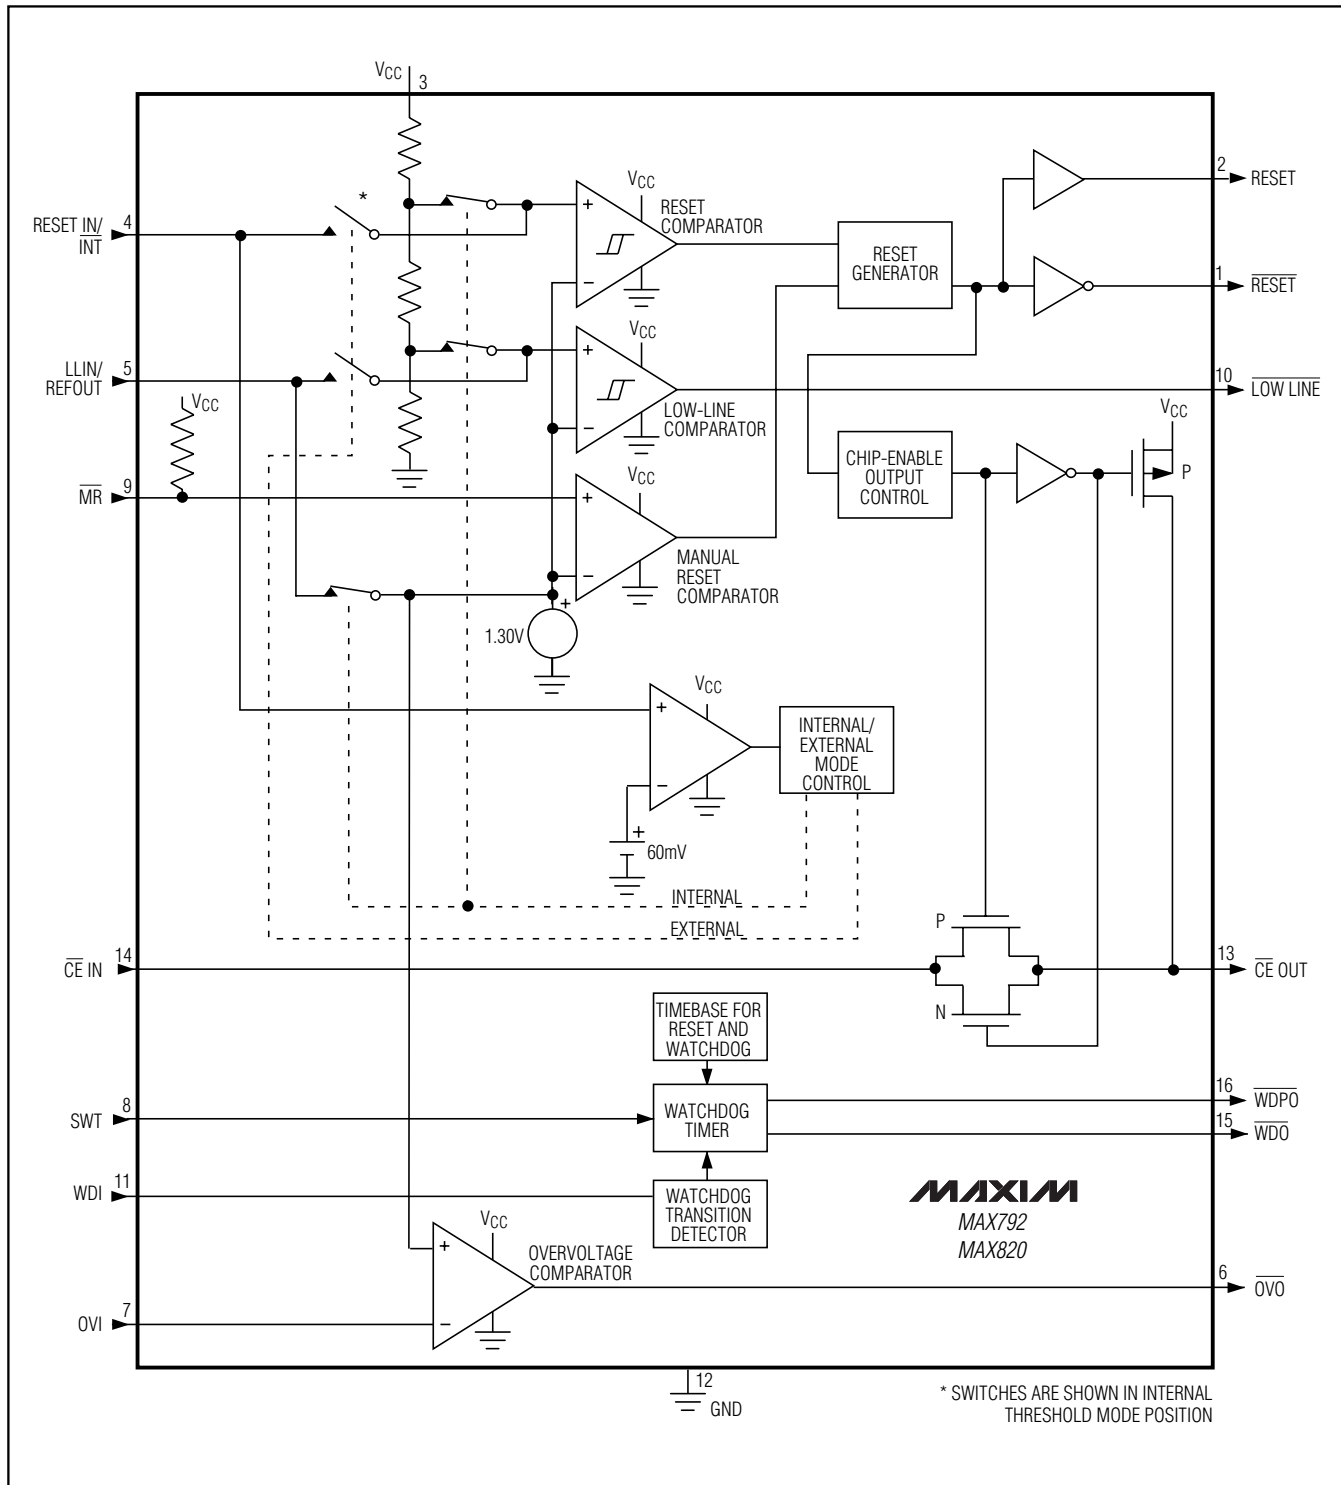
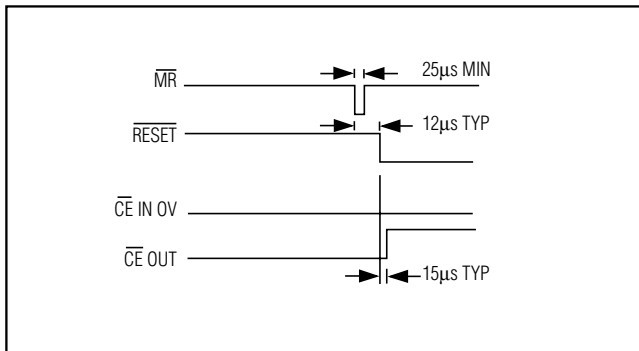
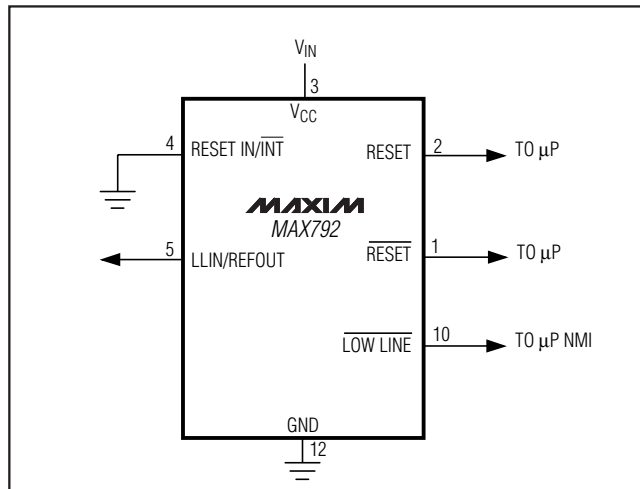
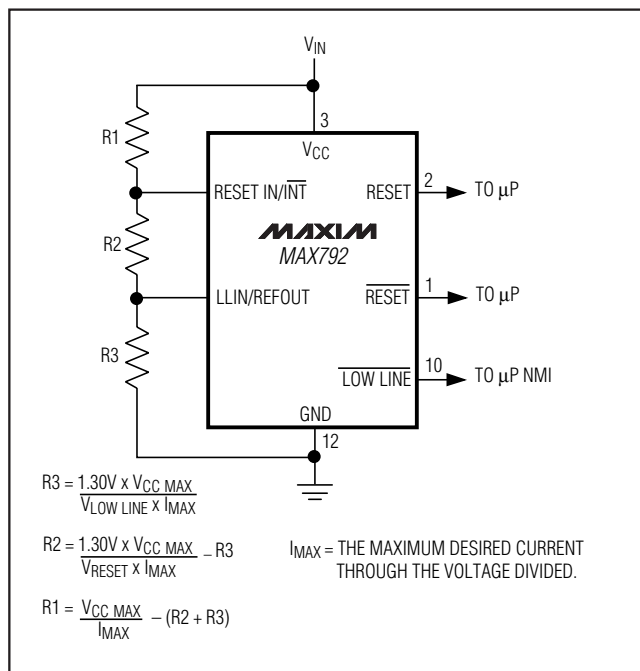

Figure 1. MAX792/MAX820 Block Diagram
Figure 2. Manual-Reset Timing Diagram
Figure 4a. Connection for Internal Threshold Mode
Figure 4b. Connection for External Threshold Programming Mode
Many  $\mu$ P-based products require manual-reset capability, allowing the operator to initiate a reset. The manual/external-reset input ( $\overline{\text{MR}}$ ) can connect directly to a switch without an external pull-up resistor or debouncing network.  $\overline{\text{MR}}$  internally connects to a 1.30V comparator, and has a high-impedance pull-up to  $V_{\text{CC}}$ , as shown in Figure 1. The propagation delay from asserting  $\overline{\text{MR}}$  to reset asserted is typically 12 $\mu$ s. Pulsing  $\overline{\text{MR}}$  low for a minimum of 25 $\mu$ s asserts the reset function (see *Reset Function* section). The reset output remains active as long as  $\overline{\text{MR}}$  is held low, and the reset timeout period begins after  $\overline{\text{MR}}$  returns high (Figure 2). To provide extra noise immunity in high-noise environments, pull  $\overline{\text{MR}}$  up to  $V_{\text{CC}}$  with a 100k $\Omega$  resistor.
Connecting the reset-input/internal-mode select pin (RESET IN/ $\overline{\text{INT}}$ ) to ground selects internal threshold mode (Figure 4a). In this mode, the low-line and reset thresholds are factory preset by an internal voltage divider (Figure 1) to the threshold voltages specified in the *Electrical Characteristics* (Reset Threshold Voltage and Low-Line Threshold Voltage). Connect the low-line output ( $\overline{\text{LOWLINE}}$ ) to the  $\mu$ P NMI pin, and connect the active-high reset output (RESET) or active-low reset output ( $\overline{\text{RESET}}$ ) to the  $\mu$ P reset input pin.
Connecting RESET IN/ $\overline{\text{INT}}$  to a voltage above 600mV selects external programming mode. In this mode, the low-line and reset comparators disconnect from the internal voltage divider and connect to LLIN/REFOUT and RESET IN/ $\overline{\text{INT}}$ , respectively (Figure 1). This mode allows flexibility in determining where in the operating voltage range the NMI and reset are generated. Set the low-line and reset thresholds with an external resistor divider, as in Figure 4b or Figure 4c. RESET typically remains valid for  $V_{\text{CC}}$  down to 2.5V;  $\overline{\text{RESET}}$  is guaranteed to be valid with  $V_{\text{CC}}$  down to 1V.
Calculate the values for the resistor voltage divider in Figure 4b using the following equations:
The MAX792/MAX820 provide internal gating of chip-enable (CE) signals, which prevents erroneous data from corrupting CMOS RAM in the event of an under-voltage condition. The MAX792/MAX820 use a series transmission gate from  $\overline{\text{CE}}$  IN to  $\overline{\text{CE}}$  OUT (Figure 1).